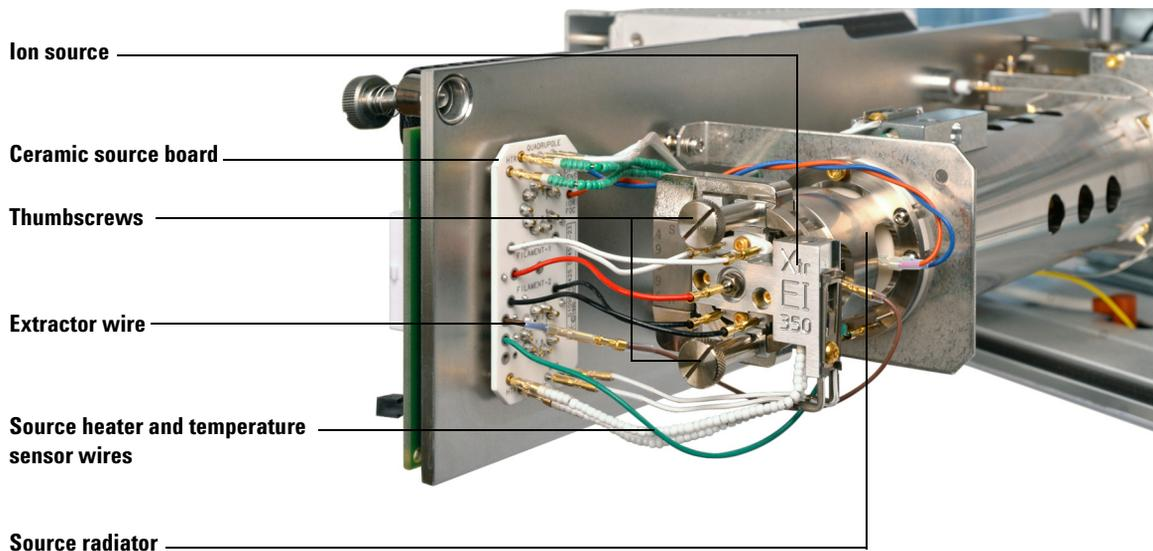

Figure 62 Installing the EI source
- 1 Slide the ion source into the source radiator. (See Figure 62.)
- 2 Insert and hand tighten the source thumbscrews. Do not overtighten the thumbscrews. (See Figure 62.)